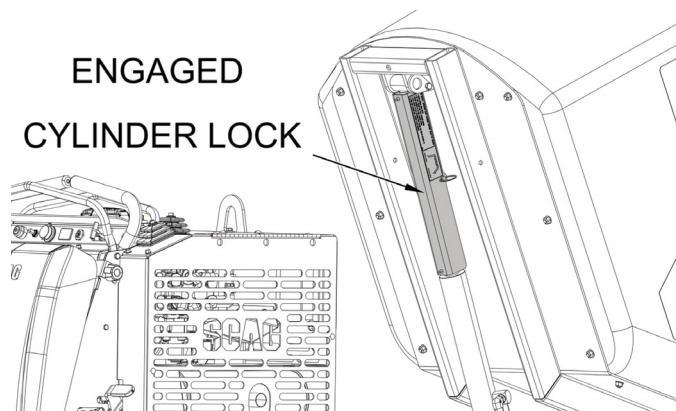

Figure 6-4. Securing the Cylinder Lock
6. Lower the hopper until the cylinder lock is secure between the hopper and the cylinder. See Figure 6-4.